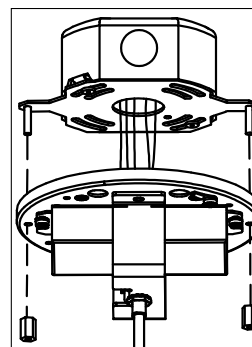

Figure 3: Base Mounting [1/2]
6. Align and attach pendant base to mounting kit using [2] (provided) coupling nuts. [Figure 3 and 4]